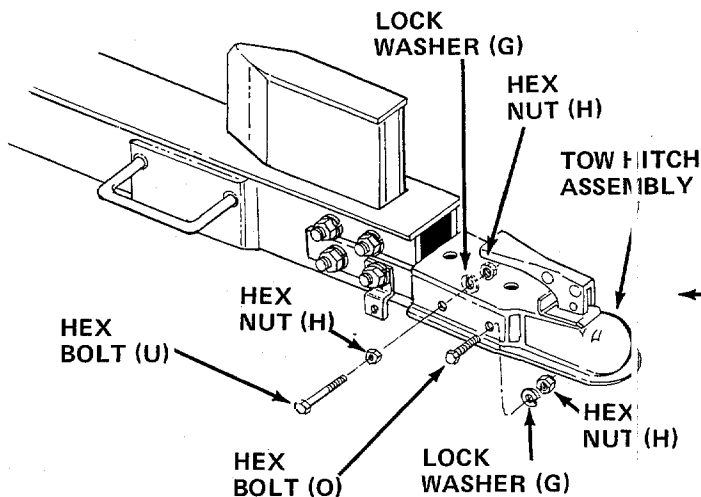

FIGURE 5
4. Place the tow hitch assembly in position on the tow hitch brackets. Secure the left side of tow hitch assembly with two hex bolts (O), lock washers (G) and hex nuts (H). See figure 5.
5. Secure the right hand side of tow hitch assembly with hex bolt (O), lock washer (G) and hex nut (H) in the front hole only.
6. Thread one hex nut (H) onto hex bolt (U). Secure rear hole in tow hitch assembly with this bolt, lock washer (G) and another hex nut (H).
**NOTE:** Spring (Y) will be attached to this bolt in step 9.